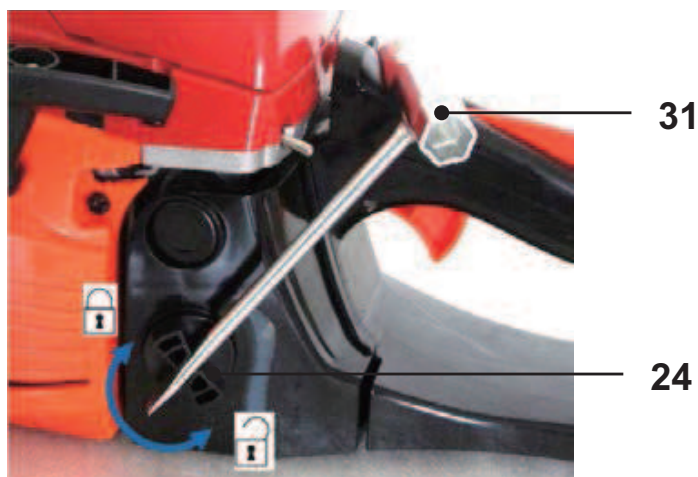

Fig. 18
7. Unscrew and remove the fuel tank cap (**24**) (Fig. 18).